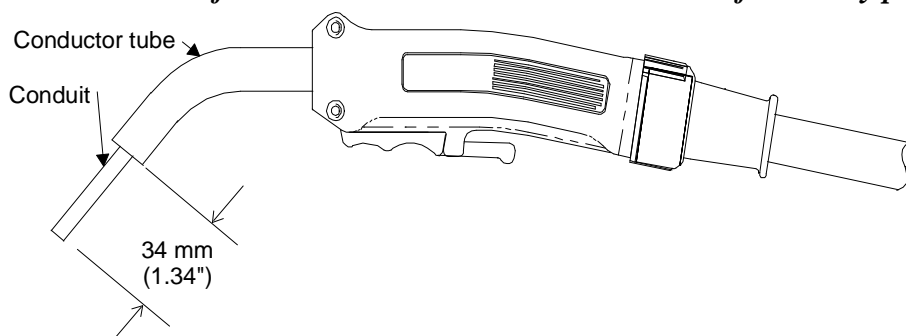

Figure 11 - Conduit liner trim length
**IMPORTANT 1:** *When the conduit liner is fully inserted into the cable assembly and the conduit liner stop is firmly against the Connector Plug, the "raw end" of the conduit liner will protrude out of the open end of the gun conductor tube. Trim the conduit liner as shown in Figure 11. The trimmed end which seats in the Gas Diffuser must be filed and reamed smooth on the inside and outside radii so the electrode wire will not be obstructed.*